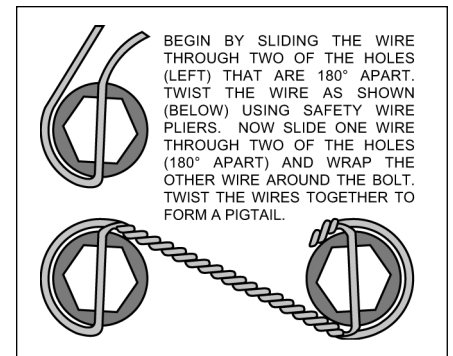

Figure 8. Safety Wire Diagram
- Slide the caliper mounting bracket kit assembly (1) onto the housing flange and then insert the axle assembly through the center hole of the caliper mounting bracket assembly (1). Align the bearing retainer (2) with the four holes inside the bracket assembly (1) and secure using the stock Original Equipment Manufacturer (OEM) bolts and nuts. Stock OEM hex nuts that retain the caliper mounting bracket assembly (1) and retainer (2) should be on the wheel side of the bracket. Apply red *Loctite*® 271 to the stock OEM bolt threads and torque to OEM specifications. Make sure the heads of the caliper mounting bracket assembly (1) insert nuts are **FACING OUTWARD TOWARDS THE WHEEL**.
- Align the correct hole pattern in the rotor (3) with the stud pattern on the axle flange. **NOTE:** Some OEM and after market axles come with stud sizes larger than 0.50" diameter. Verify stud size and have a qualified machine shop drill the bolt circle of the rotor to the correct stud size, if necessary. Slide the rotor (3) over the wheel studs covering the mounting bracket assembly (1) and against the axle flange face.
- WITH THE BLEED SCREWS POINTING UP**, mount the caliper (4) over the rotor (3) and onto the caliper mounting bracket (1) using lock washers (5) and mounting bolts (6). View the rotor through the top opening of the caliper. The rotor should be aligned in the center of the caliper. If not, adjust the caliper by using 0.032 inch shims (7) by placing them between the caliper mounting bracket (1) and the caliper (7). Apply red *Loctite*® 271 to the mounting bolt threads (6), torque to 30 ft-lb. Safety wire the caliper mounting bolts (6), see Figure 8.
- Position the Wilwood disc brake pads (8) into the caliper (4) and fasten with cotter pin (9). Steel backing plate side of brake pad should face the caliper pistons.
- Before final installation of the wheel, install a couple of lug nuts and adjust the parking brake shoes outward (using a drum shoe adjustment tool available at your local auto parts store) while spinning the rotor/hat (3) until a slight drag is felt again the hat/drum.